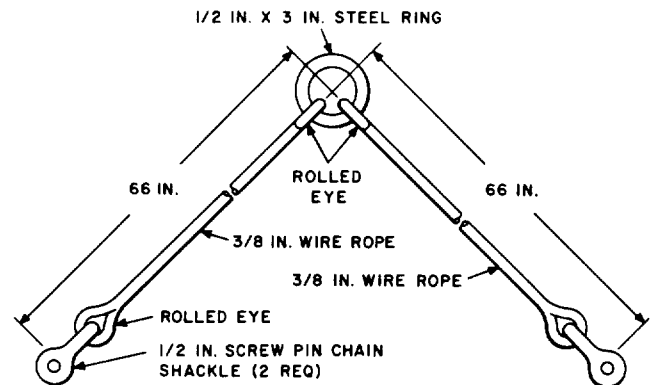
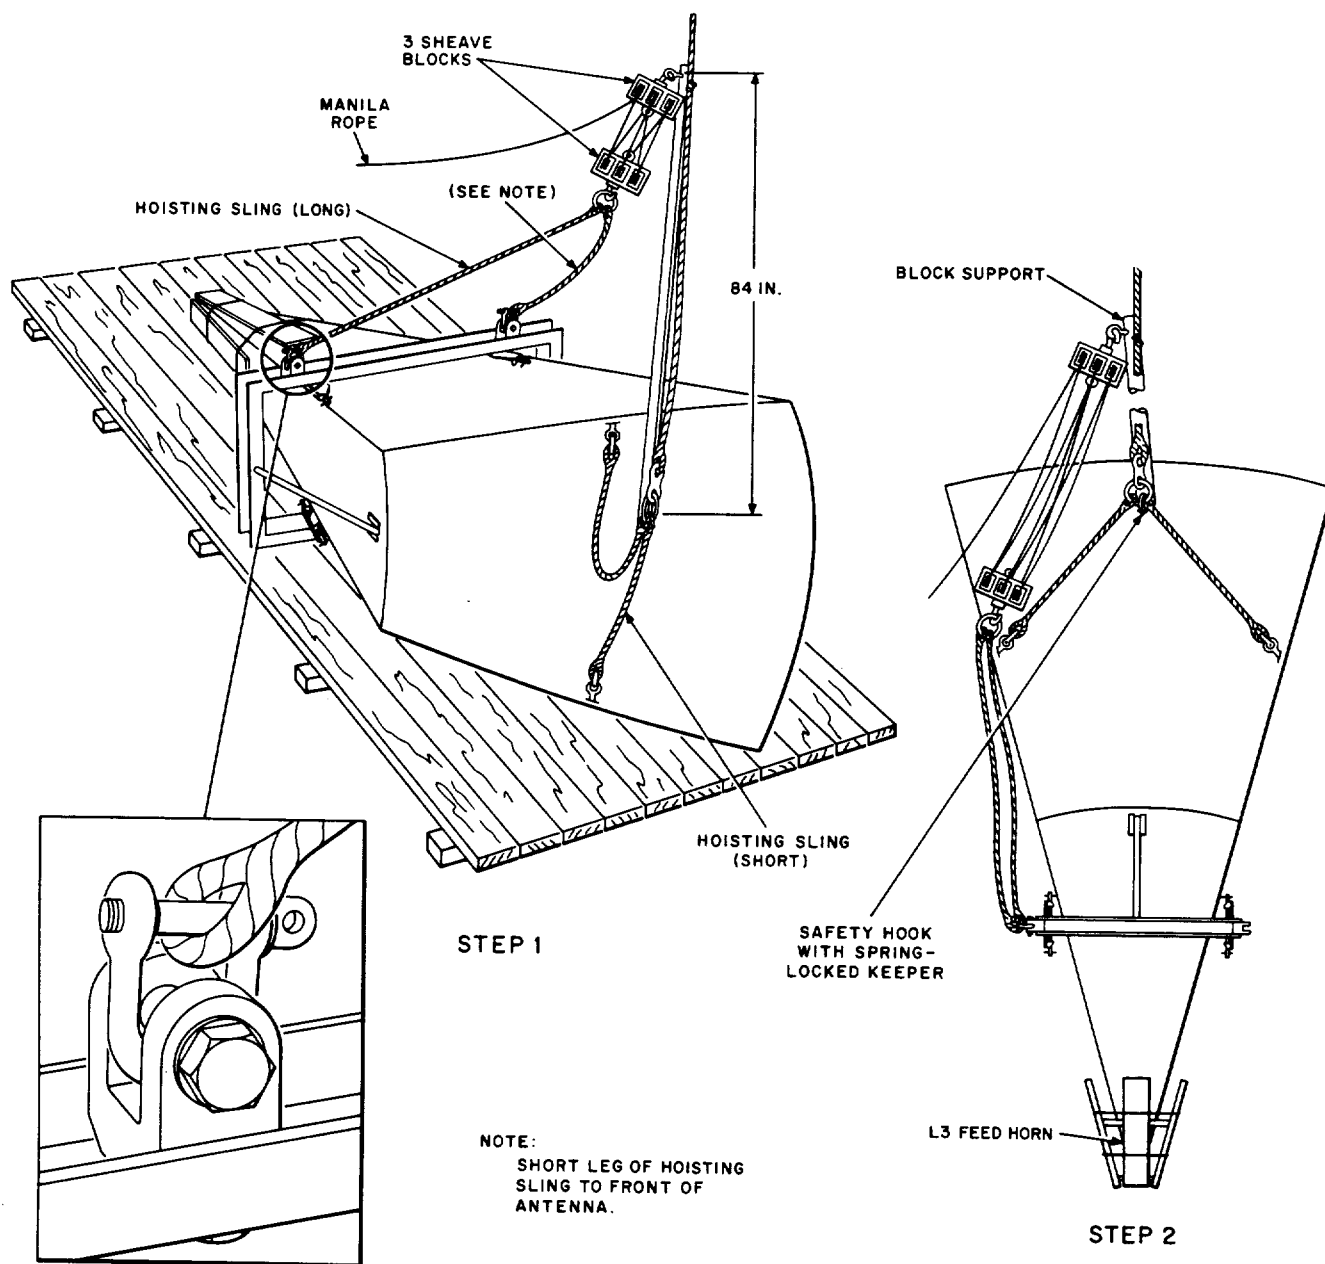

Fig. 1—Hoisting Sling (Short)
Fig. 4—Raising the L9 or L14 Antenna
(b) Hoisting sling as shown in Fig. 1, or equivalent.
2.04 Raising the L8 Antenna: The L8 antenna is assembled front down and is raised from this position as follows: Attach the hoisting sling (Fig. 1) to the load line from the derrick atop the tower. Connect the ends of the sling to the two eyebolts located near the center of the sides of the antenna reflector. Attach guide lines to the ends of the sling to control the load during hoisting. Raise the antenna to a vertical position, and hoist to the top of the tower.
lies on the shipping base (see Fig. 4). Place a 3/4-inch bolt in each beam jaw and fasten with the hex nuts provided. Raise the antenna using the following procedure:
(1) Attach the short hoisting sling (Fig. 1) to the load line from the derrick atop the tower, and connect the ends to the eyebolts located near the center of the sides of the antenna reflector. Attach guide lines to the ends of the sling for control of the load during hoisting and to allow the antenna to be pulled to one side if necessary to clear intermediate guy wires on guyed towers. Attach the block support, per Fig. 4, to the load line by engaging the load line in the open ring on the upper end. Attach a 3-sheave block and fall to the eyebolt opposite the open ring. Push the support, with tackle attached, upward on the load line until the safety hook on the lower end can be engaged in the sling ring. The safety hook shall be equipped with a spring-loaded keeper to ensure positive engagement.